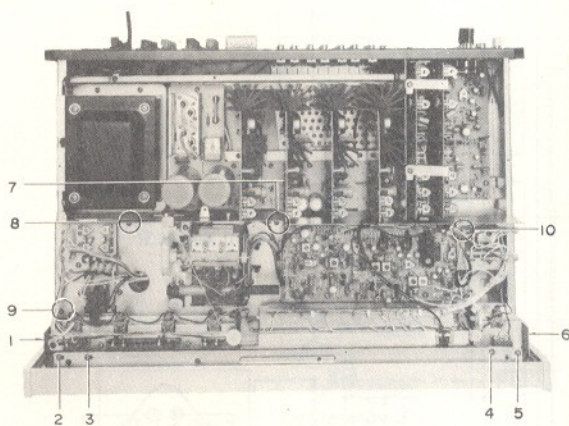

Fig. 2
6. Remove ten (10) tuner circuit mounting black screws, no. 7~16, as figure 2 and 3.